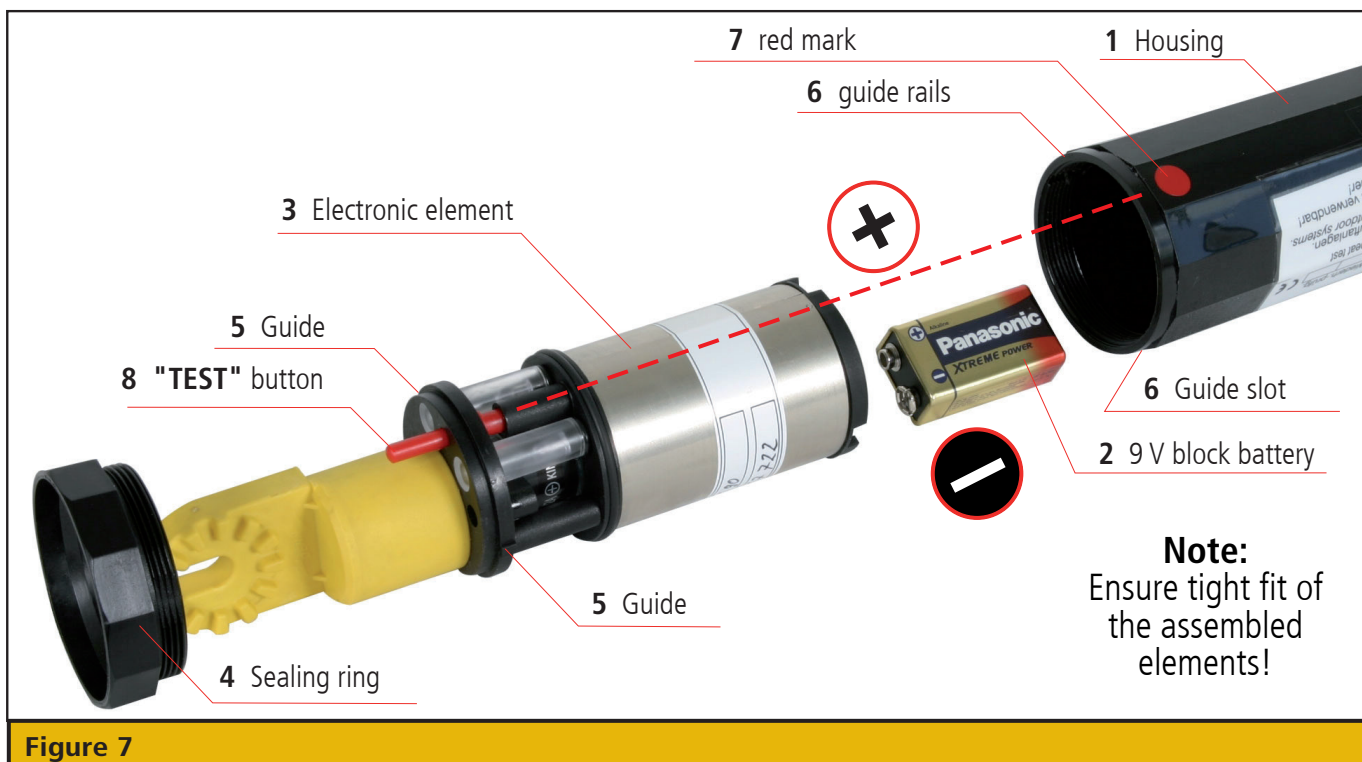

Figure 7
- 5.1 Open the housing **(1)** by turning the sealing ring **(4)** on the lower end of the indicator counterclockwise (the insulating stick does not have to be removed) (see Fig. 7, page 19).
- 5.2 Pull the electronic element **(3)** out of the housing (see Fig. 7).
- 5.3 Replace the 9V block battery **(2)** in the upper end of the electronics slide-in unit in the battery compartment by a new one (observe battery symbols) (see Fig. 7).
- 5.4 Re-assemble in reverse order. When inserting the electronic element (3), ensure that the red "TEST" button (8) and the red mark (7) are in line (see arrow in Fig. 7). Both guides (5) must engage with the guide slots. After having inserted the electronic element (3), the sealing ring (4) must be fully screwed to the housing (1) (see Fig. 7).